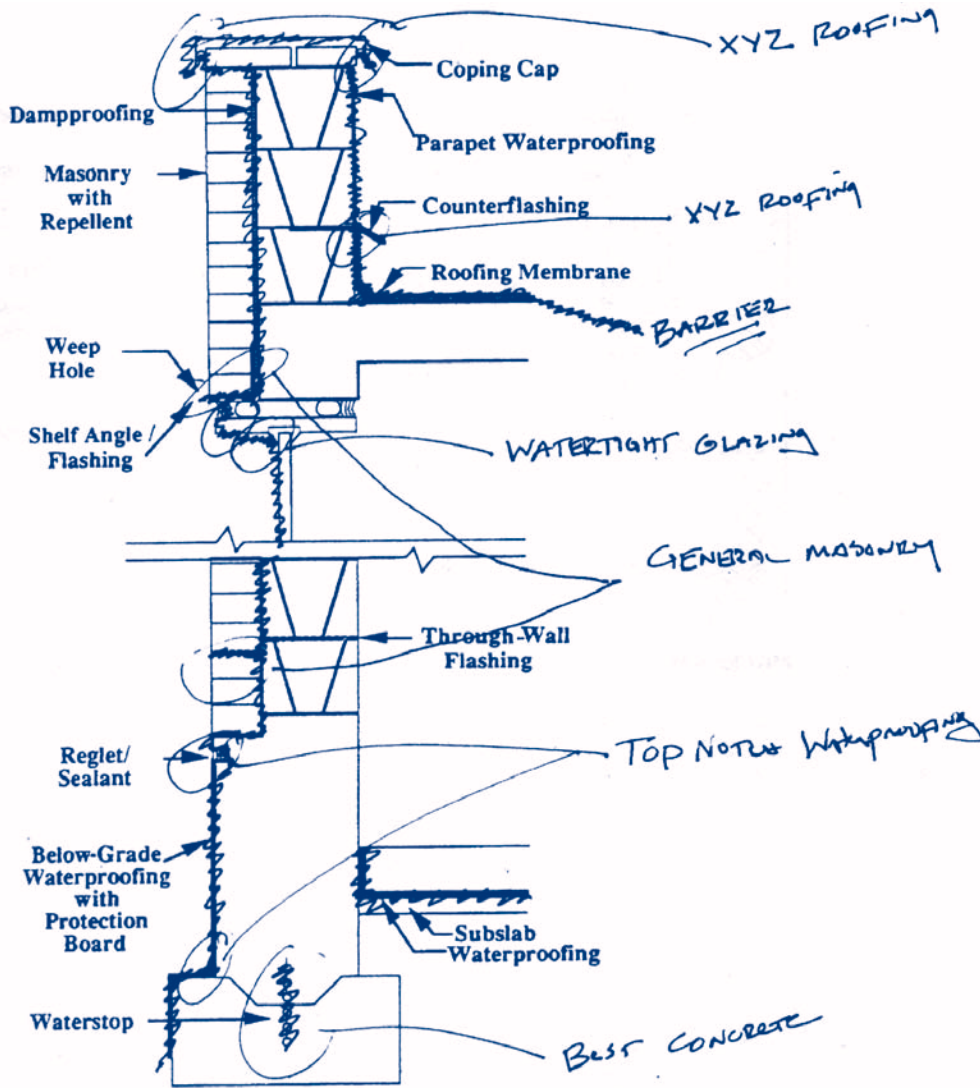

Figure 1
*Figure 1* shows a simplified wall detail and the notes that might be made during such a barrier review meeting. Note in this figure that the roofing membrane transitions into the parapet waterproofing by the use of a counterflashing at the parapet wall. The parapet waterproofing then transitions into the facade masonry by terminating into the coping cap, and so forth.